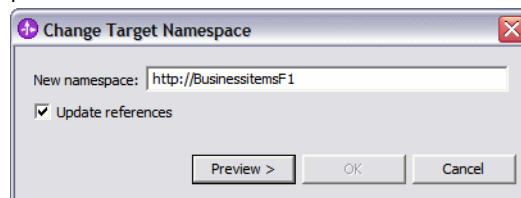

Figure 10-21 Change namespace
- ▶ Append `F1` to the current namespace so that the new namespace is `http://BusinessitemsF1` (Figure 10-21)